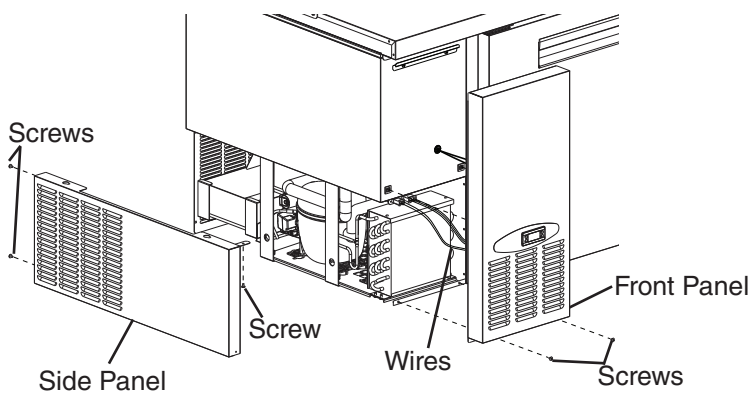

**Fig. 39**
- 2) Remove the screws securing the front panel, then pull and lift the front panel out slightly to remove it. See Fig. 39. **NOTICE! Be careful not to pull out the front panel too far because there are power wires and thermistor wires attached to the control module in the front panel.**